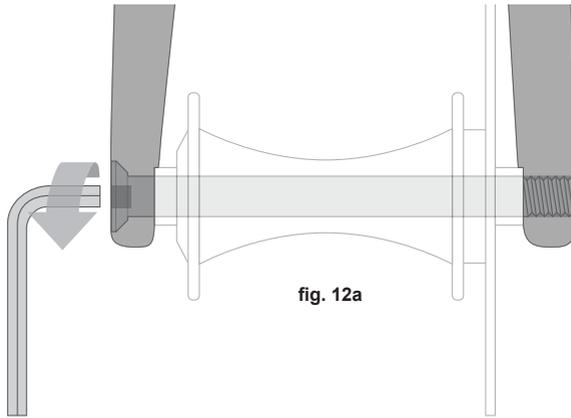
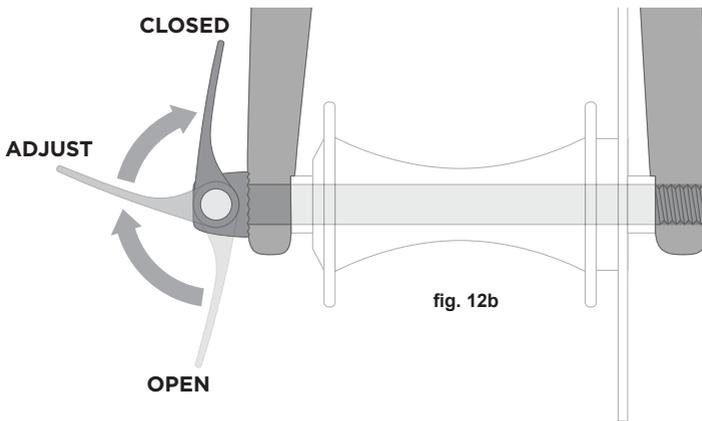

fig. 12a
fig. 12b
#### a. Adjusting the thru-axle mechanism (fig. 12a & 12b)
The thru-axle is inserted through the unthreaded hole in the frame or fork's dropout, through the wheel hub, and is threaded directly into the opposing dropout by tightening the thru-axle. Common installation methods may use an Allen hex key (fig. 12a) or a cam lever (fig. 12b). Please refer to the manufacturer's instructions for specific information about your thru-axle's operation, including correct torque specifications or lever adjustment information.
4. If your bike has a thru-axle front wheel mounting system (**figs. 12a & 12b**), loosen and remove the thru-axle according to the manufacturer's instructions, then remove the front wheel.
- c. With a thru-axle system, tighten the thru-axle (**figs. 12a & 12b**) according to the manufacturer's instructions.
6. If you disengaged the brake quick-release mechanism in 4. a. (1) above, re-engage it to restore correct brake pad-to-rim clearance.
(5) If your bike has a thru-axle rear wheel mounting system (**figs. 12a & 12b**), loosen and remove the thru-axle according to the manufacturer's instructions.
(6) Push the rear wheel forward far enough to be able to remove the chain from the rear sprocket, then lift the rear wheel off the ground a few inches and remove it from the rear dropouts.
(c) With a thru-axle system, tighten the thru-axle (**figs. 12a & 12b**) according to the manufacturer's instructions.